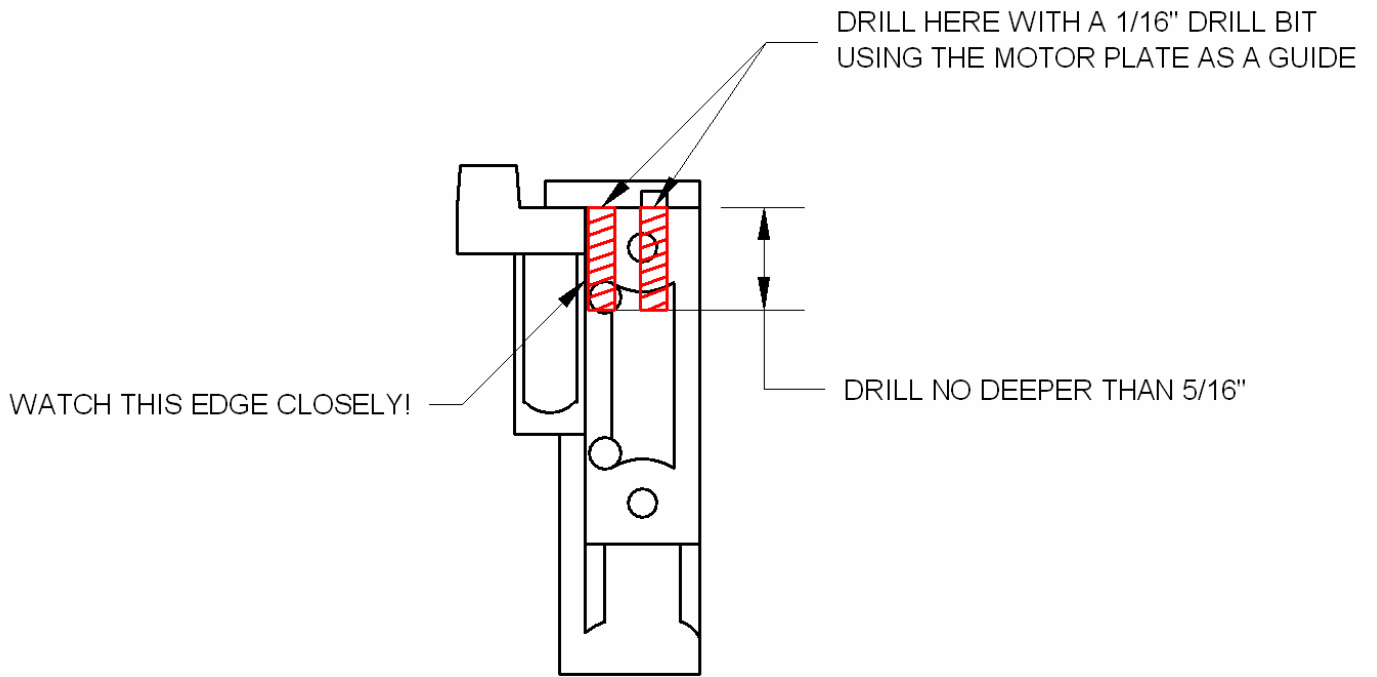
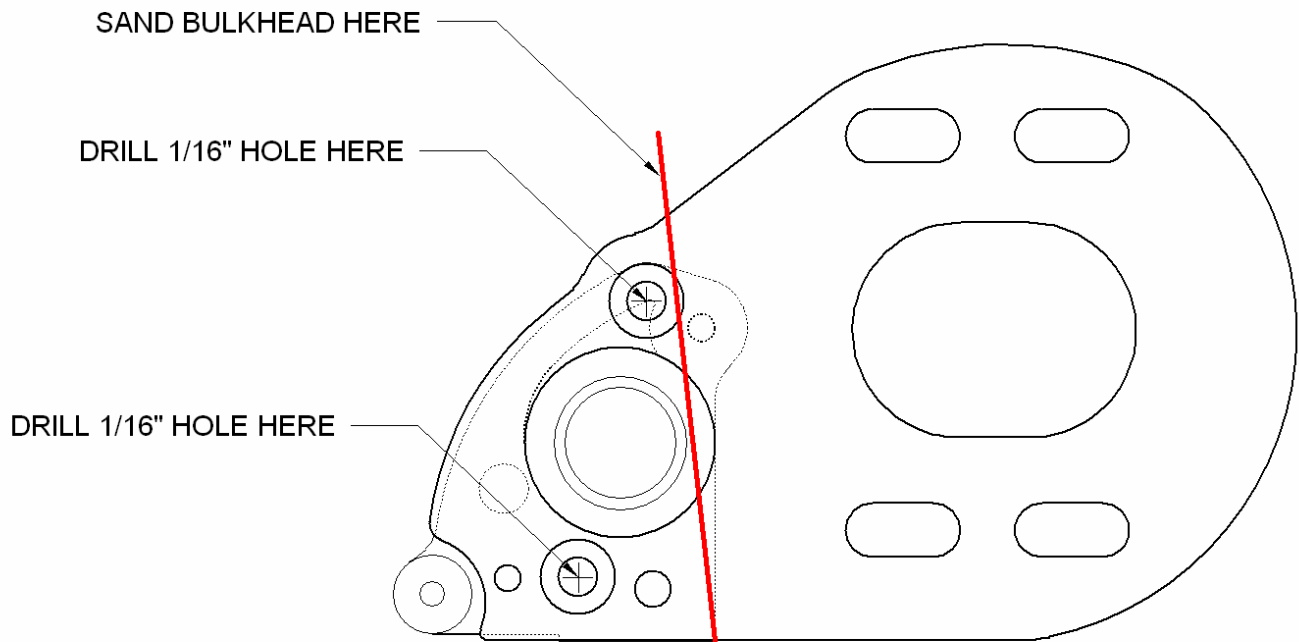

Figure 1. Underside view of rear bulkhead showing where to drill holes.
Figure 2. Drill two 1/16" holes into the rear bulkhead as shown.
The motor plate is designed to fit over the rear bulkhead and mount with three screws: AE - (2) M2 x 5mm Phillips Pan-Head Motor Plate Screws and AF - (2) 1/4" 2-56 Phillips Flush-Mount Motor Plate Screws. The holes for the AF 2-56 screws need to be drilled into the side of the rear bulkhead in the locations shown by the holes in the motor plate. Press-fit the motor plate onto the axle housing and notice the locations where the screws are supposed to go. Drill a 1/16" hole straight into the side of the rear bulkhead in each location as shown with the motor plate attached. See Figure 1 and Figure 2. Do not drill deeper than 5/16".